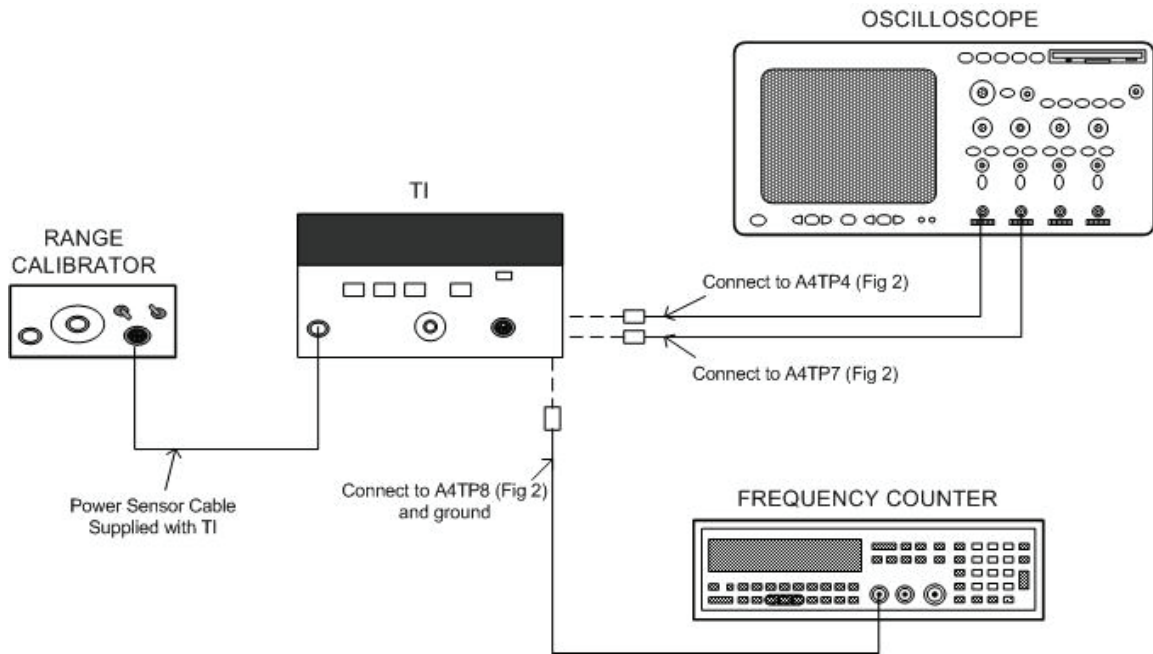

Figure 3. Model 435A multivibrator adjustment - equipment setup.
- (6) Connect equipment as shown in figure 3.
- (7) Set range calibrator **FUNCTION** switch to **CALIBRATE**.
- (8) Position oscilloscope controls as listed in (a) through (e) below: